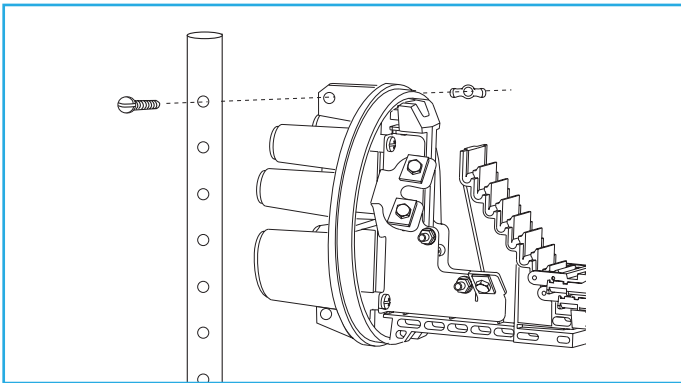

Figure 13.
- 8.5 Protect dome from dirt during installation. DO NOT SIT ON DOME! Attach the closure base to the FOSC closure work stand using a nut and bolt. (Figure 13)